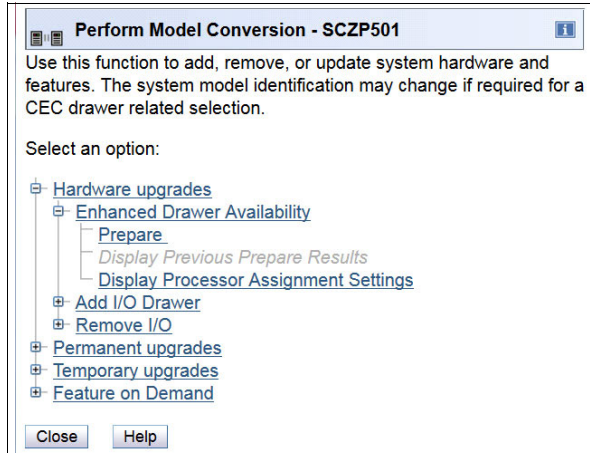

Figure 9-1 Clicking Prepare for Enhanced Drawer Availability
For the EDA process, this is the preparation phase. It is started from the SE, either directly or on the HMC by using the **Single object operation** option on the Perform Model Conversion window from the CPC configuration task list, as shown in Figure 9-1 on page 373.
The preparation step can be run without performing a drawer replacement. You can use it to dynamically adjust the operational configuration for drawer repair or replacement before IBM SSR activity. Figure 9-1 shows the Perform Model Conversion window where you click **Prepare for Enhanced Drawer Availability**.
5. Rerun the step in Figure 9-1 on page 373 (the Prepare for Enhanced Drawer Availability task) to ensure that the required conditions are all satisfied.